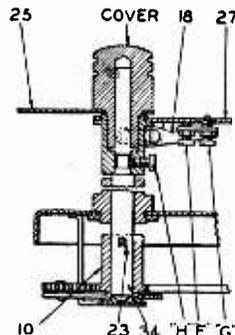

Fig. 3
**F. & G. Record Separating Knife.** (See Fig 3)—The upper plate (knife) (25) on each of the record posts serves to separate the lower record from the stack and to support the remaining records during the change cycle. It is essential that the spacing between the knife and the rotating record shelf (27) be accurately maintained. The spacing for the 10 inch record is nominally .055 inch, and for the 12 inch record is .075 inch.
**H. Record Support Shelf.**—The record shelf revolves during the change cycle to allow the lower record to drop onto the turntable. Both posts are rotated simultaneously by a gear and rack coupled to the main lever (15), and it is necessary that adjustment be such that the record is released from both shelves at the same instant. To adjust, place a 12 inch record on the turntable, rotate mechanism into cycle to the point where both separating knives have turned clockwise as far as the mechanism will turn them; lift record upward until it is in contact with both separating knives. Then loosen screws (H) and shift record shelves (27) so that the curved inner edges of the shelves are uniformly spaced approximately 1/16
inch from the record edge. (See Fig. 3.) Some backlash will be present in the rotation of these shelves. They should be adjusted so that the backlash permits them to move away from the record but not closer than the approximate 1/16 inch specified above. Tighten the blunt nose screw (H), run mechanism through cycle several times to check action, then tighten cone pointed screw (II).
**K. Trip Pawl Stop Pin.**—The position of the trip pawl stop pin (K) in relation to the main lever (15) governs the point at which the roller enters the cam. By bending the pin support either toward or away from trip pawl bearing stud, the roller can be made to enter the cam later or earlier, respectively. This adjustment should be made so that the roller definitely clears the cam outer guide as well as the nose of the cam plate.